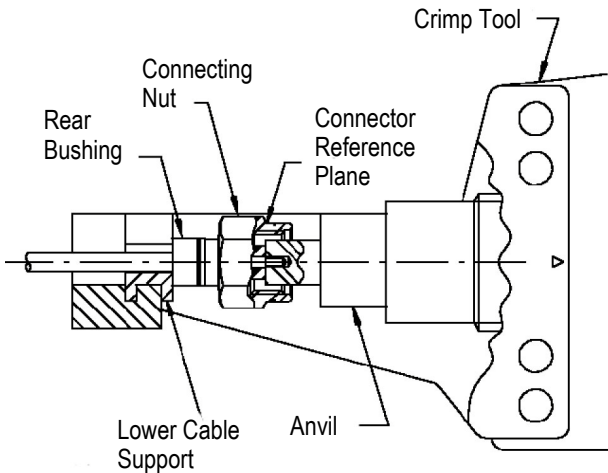

Figure 4
3. Place the connector assembly in the crimp tool so that the connector reference plane (shown in Figure 1) of the connector assembly is against the anvil and the cable sits in the lower cable support. See Figure 4.